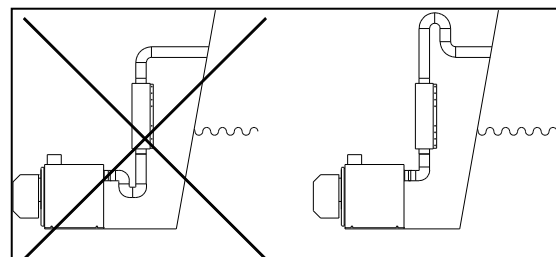

Fig. 4
- Make sure that the outlet is amply above the water level. If this is not possible use a curved construction (a swan neck as pictured on the right in figure 4).
Warning: When using a flue gas outlet longer than prescribed it is possible that condensation water may originate in the outlet. It is very important that the condensation water does not form a water trap with the flue duct becoming blocked (as pictured on the left in figure 4).
Using a swan neck (as pictured right in figure 4) prevents water from entering the flue duct from outside.
- Install a proper storm cowl on top of the chimney (this must stop rain from entering) (figure 4).